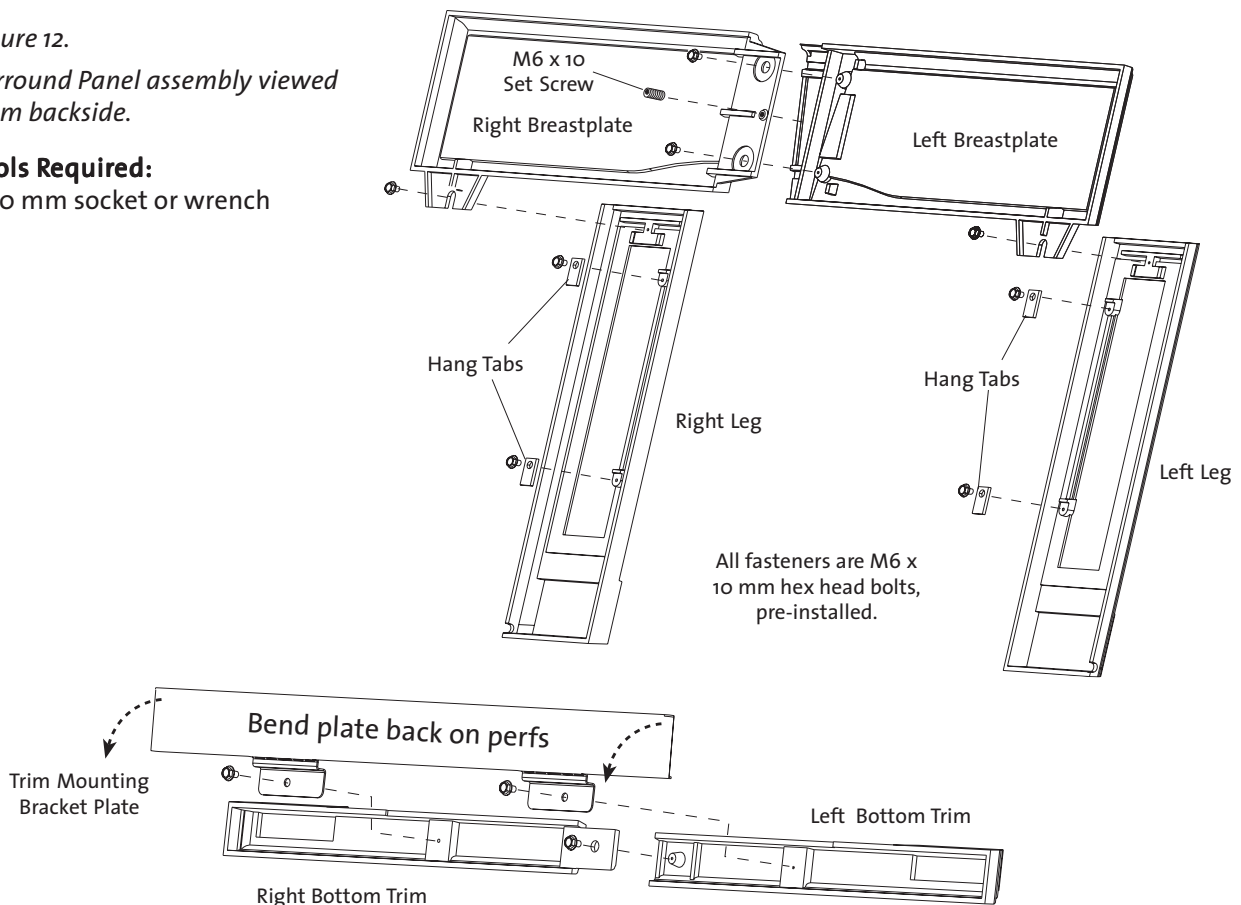

Figure 13. Bottom Surround Trim assembly.
- 4. If the Riser Bar is used,** attach the two Bottom Surround Trim panels together with the single M6 x 10 hex bolt. Attach the Trim Mounting Bracket to the back of the Bottom Trim assembly using the other two M6 x 10 bolts. **Be sure to orient the bracket as shown in fig. 13.**
Bend the perforated mounting plate down 90° as shown in Fig 13. Insert and center the bracket plate sandwiched between the firebox and the Riser Bar.